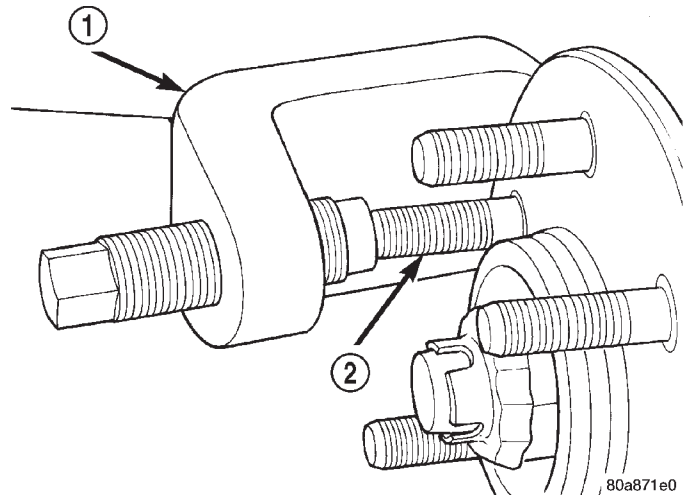

Fig. 11 Wheel Stud Removal
- (1) Raise and support vehicle.
- (2) Remove wheel and tire assembly.
- (3) Remove brake caliper, caliper adapter and rotor, refer to Group 5 Brakes for procedure.
- (4) Remove stud from hub with Remover C-4150A (Fig. 11).